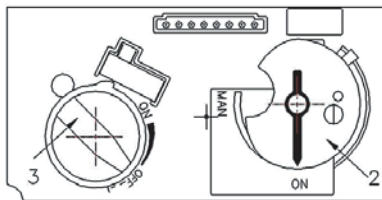
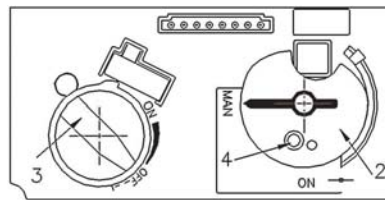
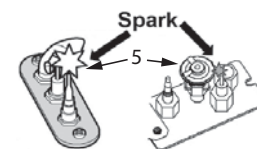

Fig 1
Fig 2
Fig 3
2. SET ON/OFF SWITCH (1) TO "OFF" POSITION.
- Wait five (5) minutes to clear out any gas, then smell for gas, including near the floor. If you smell gas, STOP! Follow "B" in the safety information above on this label. If you don't smell gas, go to the next step.
3. AUTOMATIC IGNITION (fig. 1): Locate the pilot (fig 3.) inside of firebox at Left Hand side.
- ON/OFF switch (1) in ON position, MAN-knob (2) in ON position; set Flame Adjustment knob (3) to lowest setting (☺);
- When the pilot is lit, the Flame Adjustment knob (3) will automatically rotate to the highest setting.
4. MANUAL IGNITION (fig. 2): With the window off, locate the pilot (fig. 3)